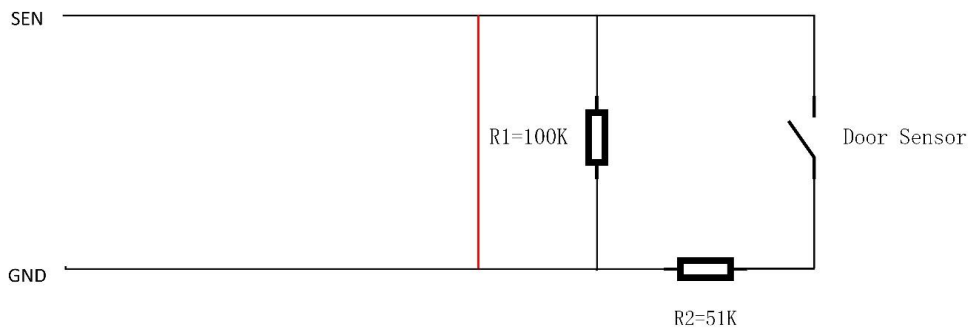

Figure 3-6-2
**Short = cable shorted (figure 3-6-2) :**